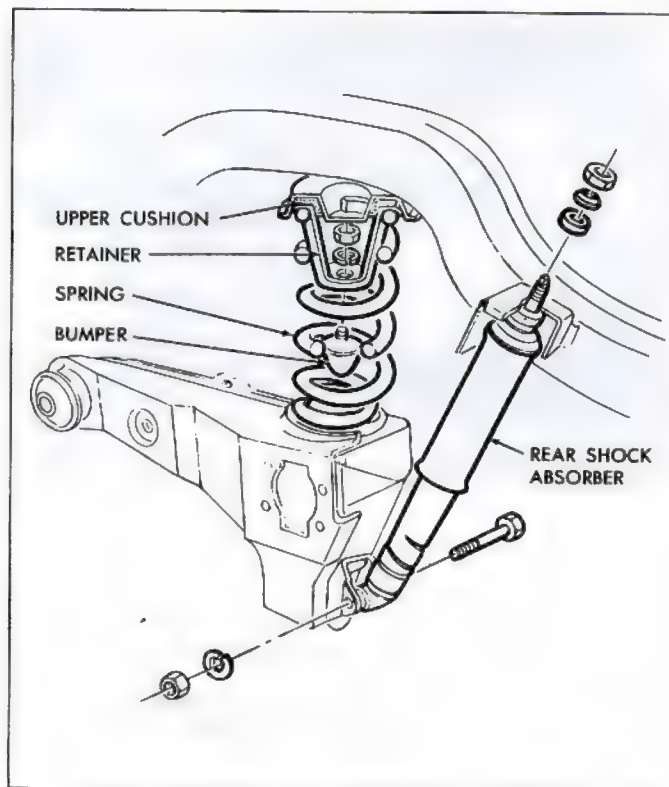

Fig. 79—Spring and Shock Absorber Installation
5. Remove spring, spring retainer and cushion from the vehicle (fig. 79).